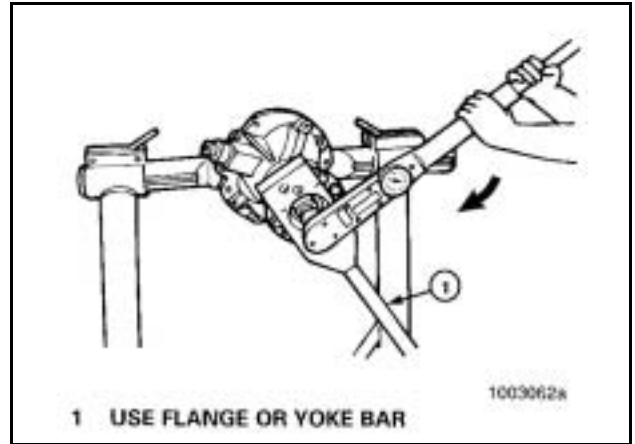

Figure 79
5. Install the drive pinion nut and washer* on the input pinion shaft and against the yoke collar. Tighten the nut against yoke collar to torque specifications. **Figure 79**. Refer to **Table J**.